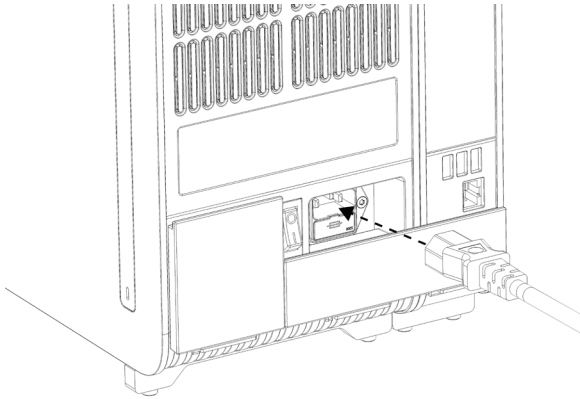

Figure 20. Connecting the power cord.
8. Connect the power cord that was delivered with the QIAstat-Dx Analyzer 1.0 to the back of the original Analytical Module (Figure 20).